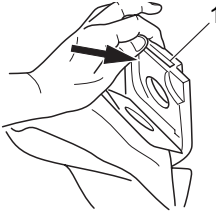

Fig. 19
4. Press the locking clip (Fig. 19/1) back to remove the dust bag.